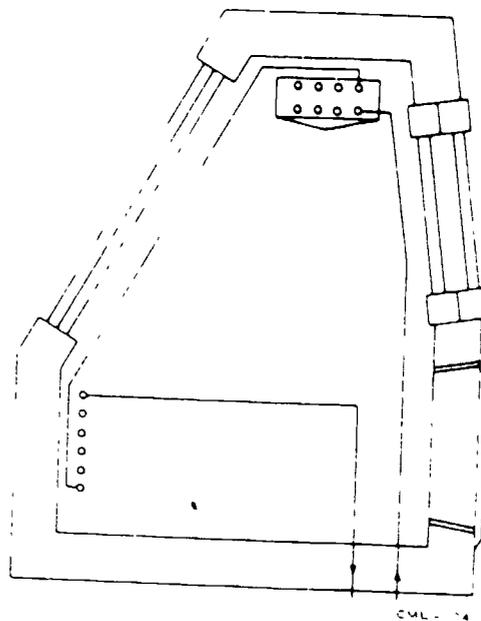

Figure 10. Closed Display Case
**Closed Type.** The closed type (see figure 10) utilizes a large glass area to display the food products. This area is covered with two or more panes of glass. This presents a problem when transporting the units at high altitudes. The area between the panes is filled with very dry air to reduce sweating. At high altitudes the dry air between the panes has a higher pressure than the atmospheric pressure. This will cause the dry air to expand and crack the panes.